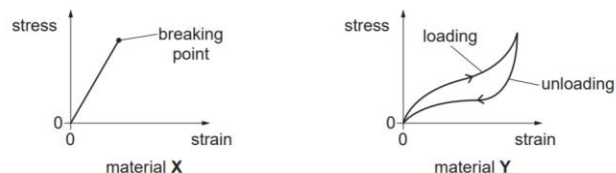

Fig. 6.1
- a) Fig. 6.1 shows the stress against strain graphs of two materials X and Y. Describe the properties of materials X and Y.